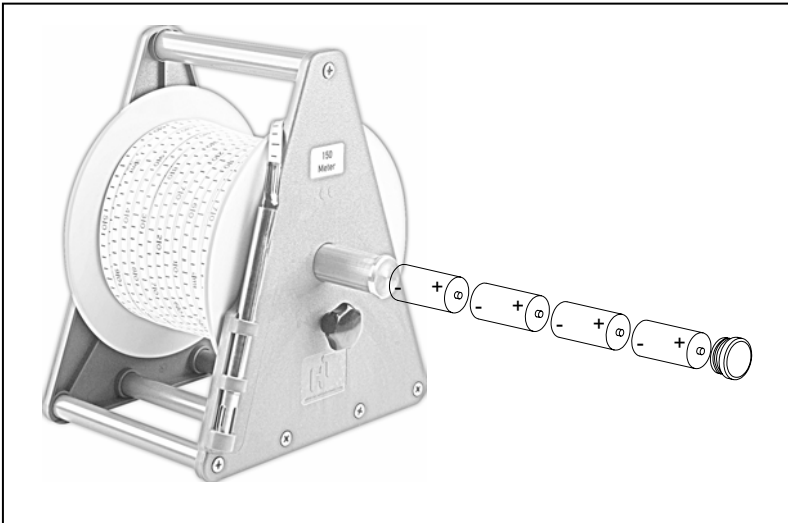

Fig. 4: Replacement of the batteries
**Caution:** The plus- pole of all batteries needs to have contact to the battery cover. (Fig. 4)